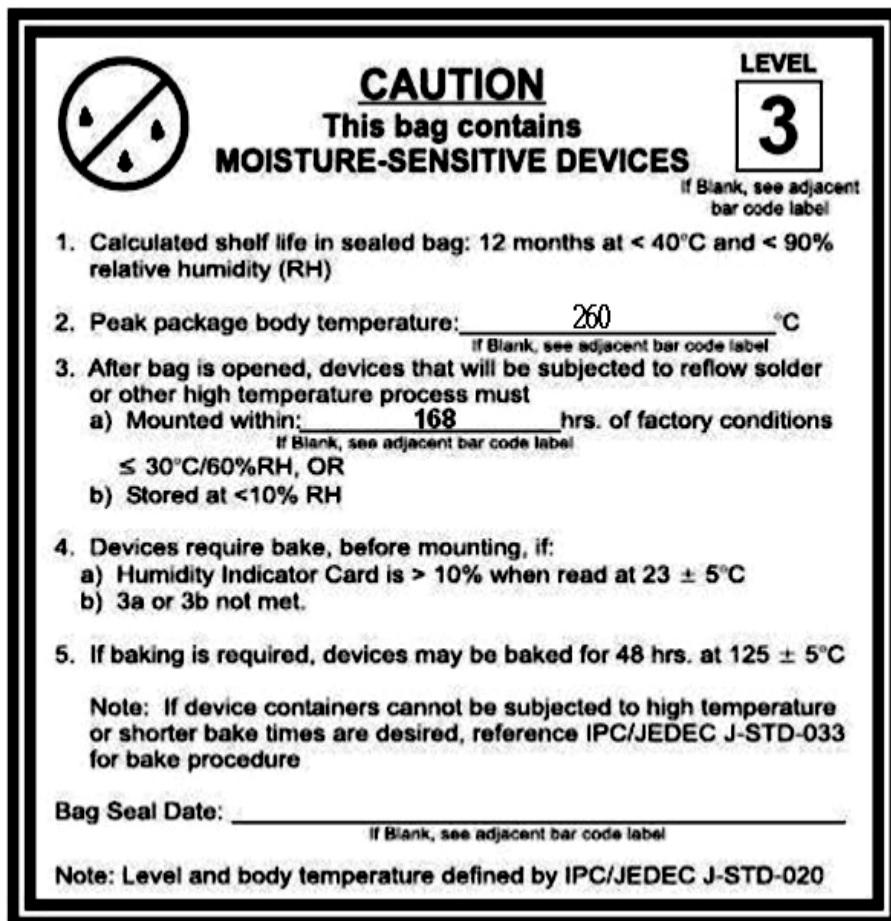

Figure 8 Storage Condition
- (1) Cabinet type oven
- (2) Anti-static and high thermos tolerant tray
- (3) Anti-static and high thermos tolerant gloves
- Conditions of product storage (Storage environment is shown in figure 8):